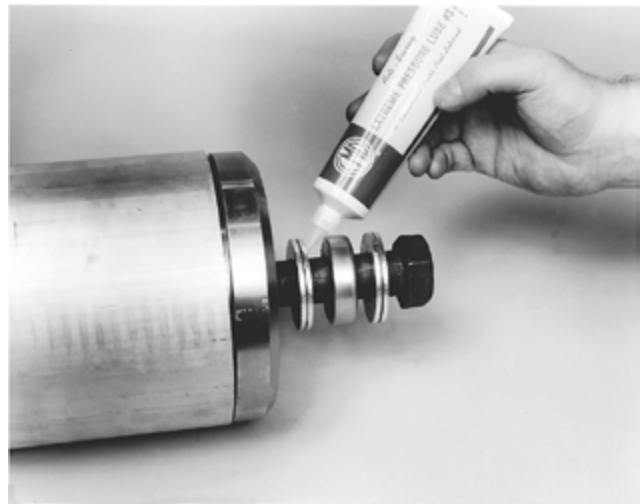

Figure 33: Apply lube to thrust washers
NOTE: There must be two lubricated thrust washers on each side of the thrust bearing as shown in Figure 32 and Figure 33.
8. **Apply** extreme-pressure lube to external surfaces of the thrust washers (Figure 33).